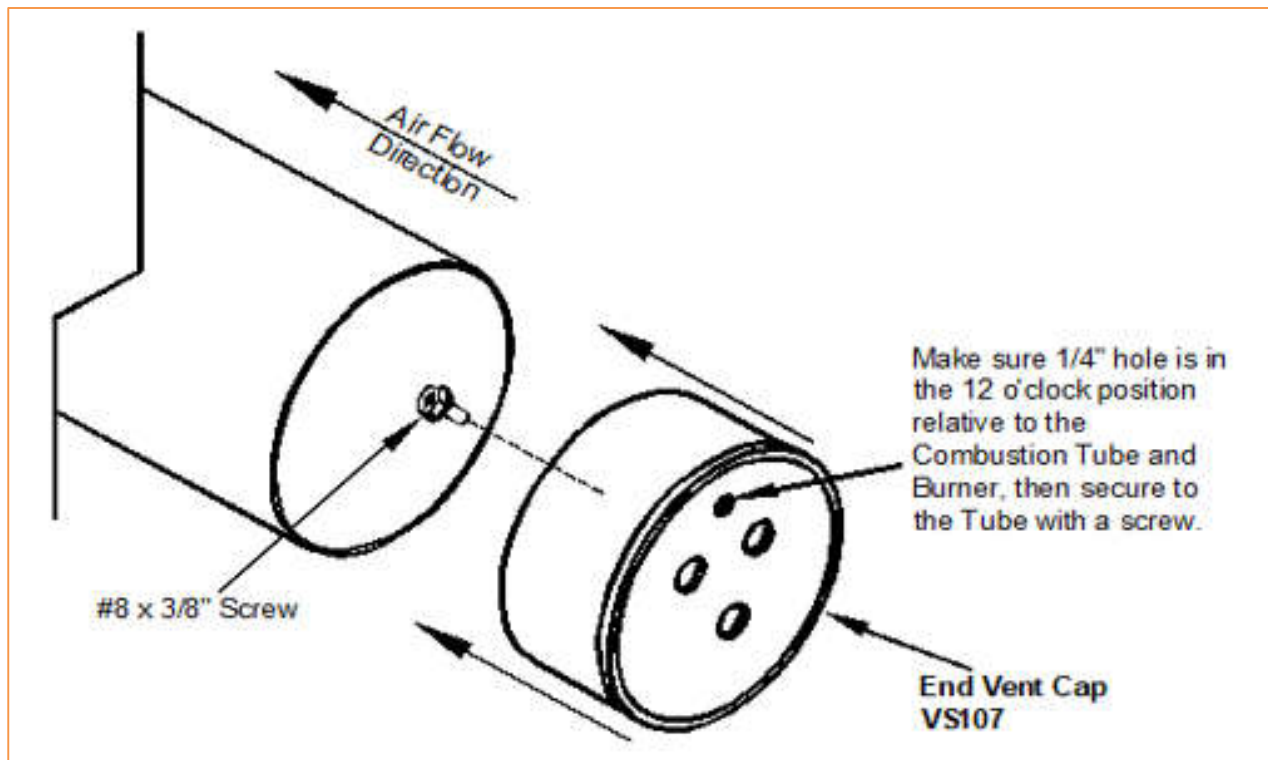

Figure 11: End Vent Cap Orientation
3. Install an End Vent Cap at the beginning of each Branch (open end of the first Combustion Tube) and fasten it with a #8 x 3/8" screw as shown in Figure 11 below.